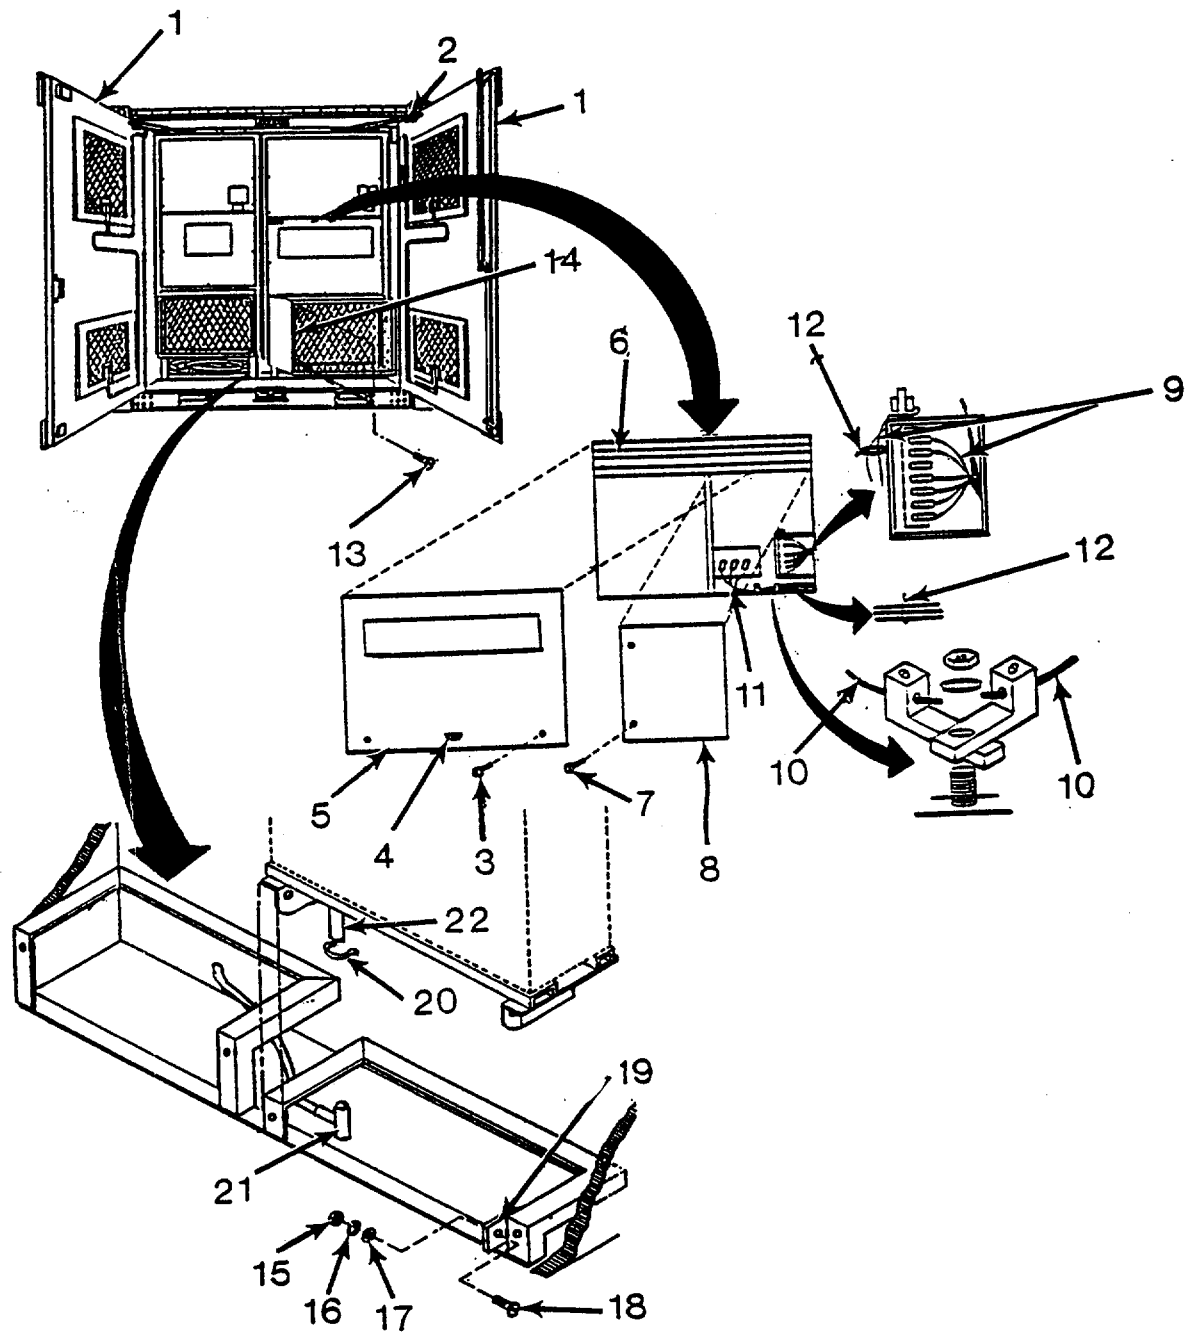
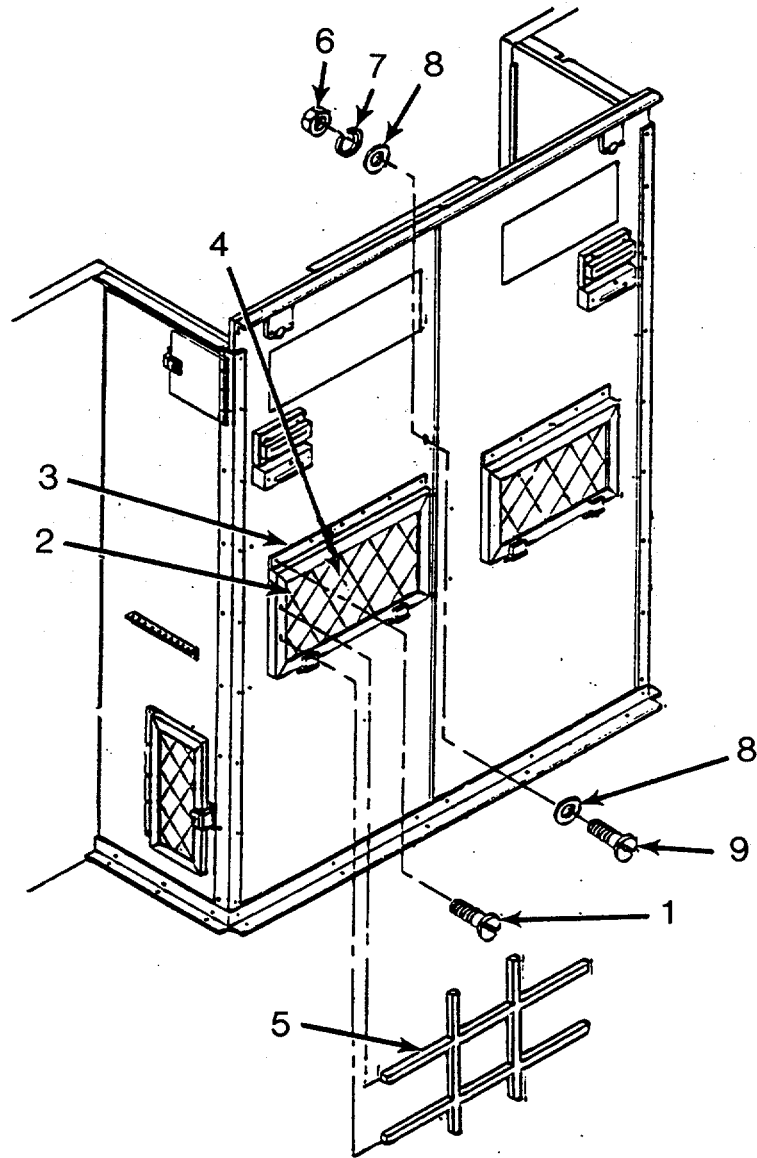

Figure 4-3. Air Conditioner Assembly (Outside)
Figure 4-4. Air Conditioner Assembly (Inside)
4-14. **AIR CONDITIONER ASSEMBLY.** (24,000 BTUH and 36,000 BTUH). Refer to figure 4-3 for location of components and hardware on the air conditioner assembly.
- (5) Remove filter (6).
- (6) Remove screws (7) and electrical cover (8).
- (7) Tag and disconnect thermostat wires (9).
- (8) Tag and disconnect grounding wires (10).
- (9) Tag and disconnect main power wires (11).
- (10) Remove tie straps (12).
- (11) Pull electrical cables out and away from air conditioner assembly.
- (12) Remove screws (13) and intermediate duct (14).
- (13) Remove nuts (15), lockwashers (16), flat washers (17), bolts (18), and angle brackets (19).
- (14) Remove tie straps (20) and disconnect tee connector (21) from drain hose (22).
- (15) Working inside shelter, remove screws (1, Figure 4-4), front vent door (2), and shim (3).
- (16) Remove filter (4).
- (17) Remove filter support (5).
- (18) Remove six nuts (6), lockwashers (7), flat washers (8) and bolts (9).
- (27) Move fork lift into position and raise air conditioner to upright position on fork lift tines. Tie a stiff wire to the electrical cables to feed them through the electrical passage.
- (28) Lift air conditioner and move to installation site at shelter cargo door entrance.
- (29) Carefully guide fork lift forward and lower air conditioner on to lower mounting bracket assembly.
- (30) Guide fork lift away from shelter.
- (31) Align holes in air conditioner mounting bracket (1) with holes in lower mounting bracket assembly (2) and secure with angle brackets (19, Figure 4-3), bolts (18), flat washers (17), lockwashers (16), and nuts (15).
- (32) Connect tee connector (21) to drain hose (22) and secure with tie strap (20).
- (33) Position intermediate duct (14) and secure with screws (13).
- (34) Reconnect the main power wires (11), grounding wires (10).
- (35) Cut and strip blue wire coming from transformer on replacement air conditioner. Reconnect thermostat wires (9). Remove tags and install tie straps (12).
- (36) Position electrical cover (8) and secure with screws (7).
- (37) Position access cover (5) and secure quick release (4).
(38) Install screws (3).
(39) Using an electric drill and the six holes in the air conditioning housing front panel as a template, drill six 1/4" holes through air conditioner housing.
(40) Install six bolts (9, Figure 4-4), flat washers (8), lockwashers (7), and nuts (6).
(41) Position shim (3) and front vent door (2) and secure with screws (1).